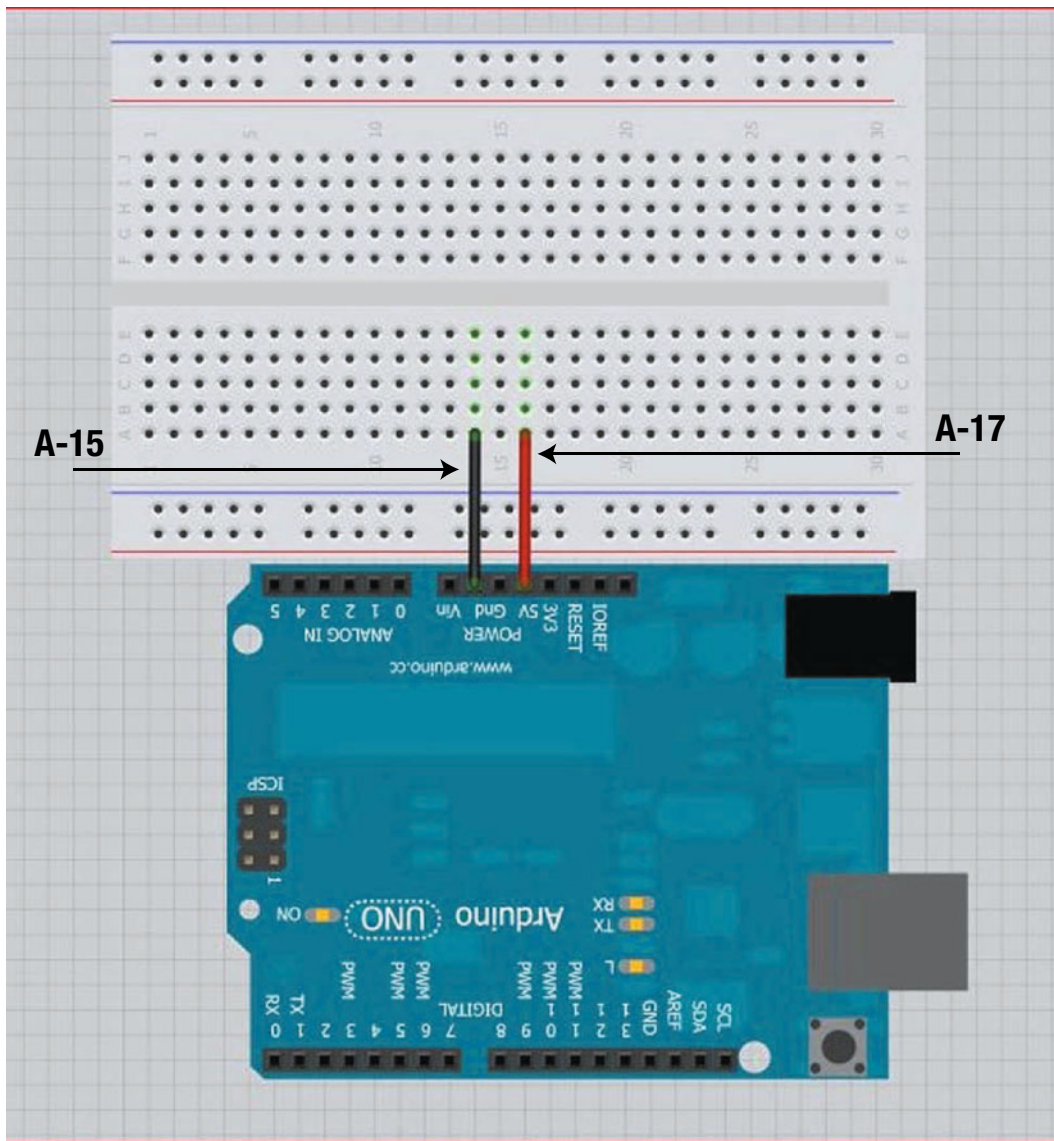
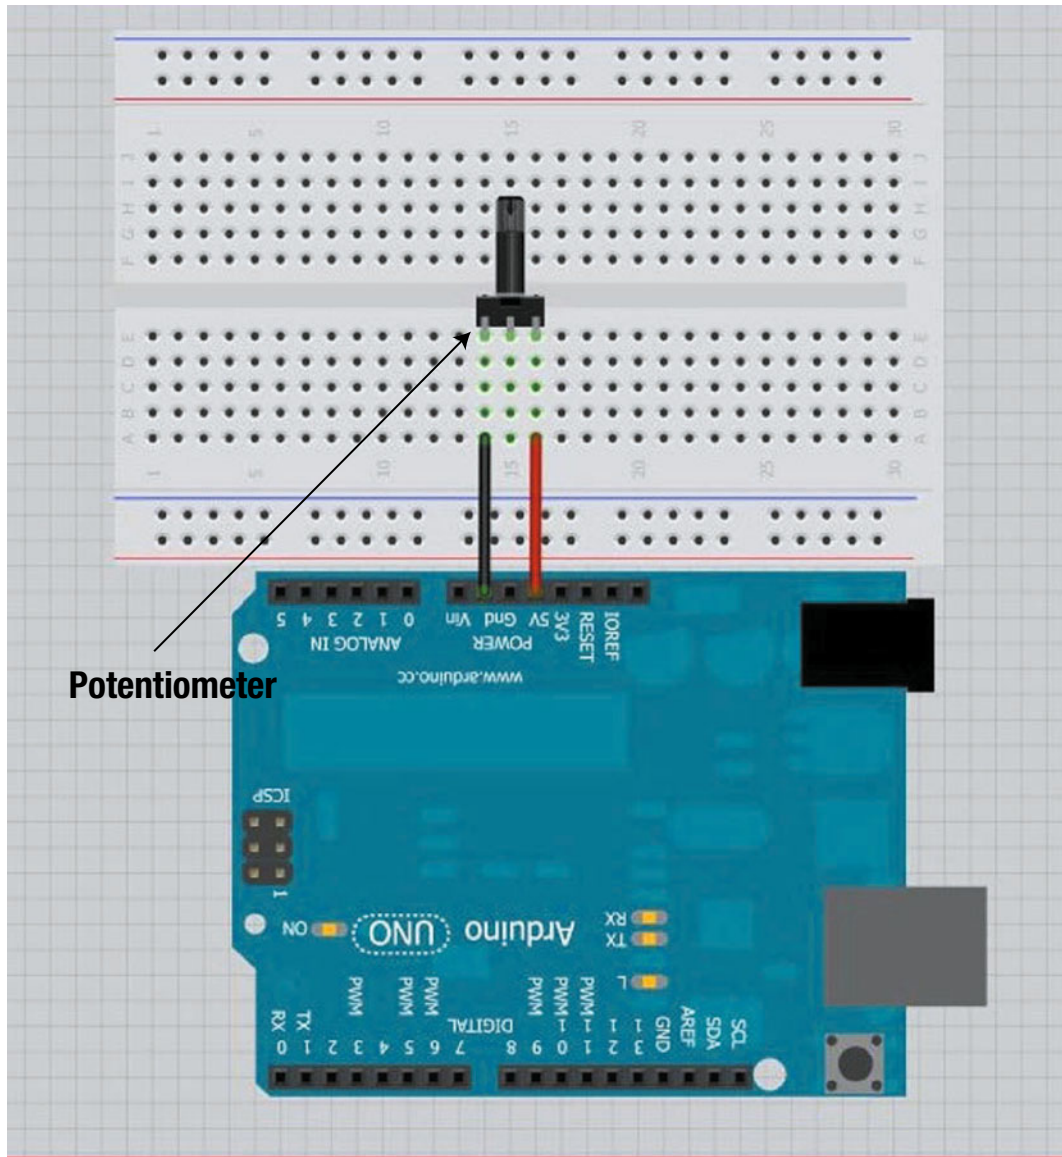

Figure 3-6. The first two wires connecting the Arduino to the breadboard
Figure 3-7. Insert potentiometer into the breadboard
1. Orient your Arduino Uno as shown in Figure 3-6 and look closely at its surface near the top. You should see two small black rectangles that are connected to the blue surface of the Arduino. These are called headers, and
they each have six holes in their top. One of these holes will be labeled 5V (for five volts) and another will be labeled GND (for ground). Now insert one wire into the Arduino's 5V pin header hole and insert another wire into the header pin labeled GND. Take the other end of the 5V wire and insert it into the breadboard at position A-17 as shown in Figure 3-6, then take the other end of the GND wire and insert it into position A-15 on the breadboard (also shown in Figure 3-6). You want one free row of holes on the breadboard between where the two wires are inserted. Figure 3-7 in the next step shows a close-up of the wires inserted into the breadboard.
- Next take the potentiometer and insert it into the breadboard as shown in Figure 3-7. Make certain that the three small posts are positioned so that the middle pin is inserted into the empty row on the breadboard between the rows holding the 5V and GND wires. Push down carefully to make certain the potentiometer is firmly seated in the solderless breadboard